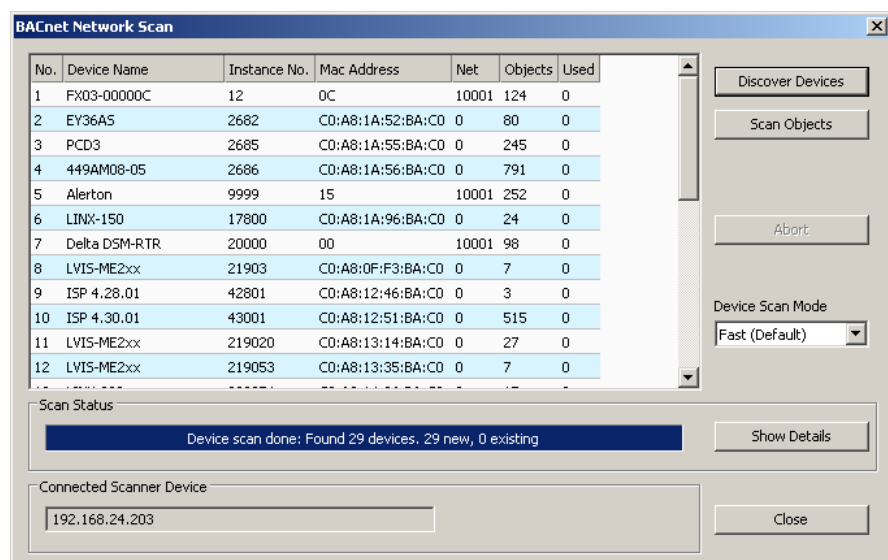

Figure 157: BACnet network scan dialog.
3. Right-click on that folder and select **Scan BACnet Network....** This opens the BACnet Network Scan dialog as shown in Figure 157.